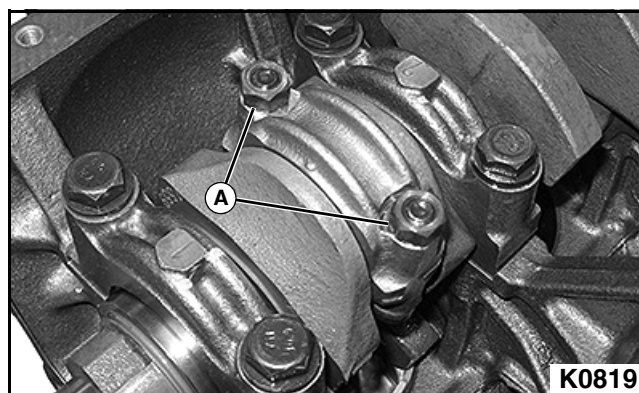

Figure 3-203
2. Remove two nuts and washers (A) securing connecting rod cap to connecting rod with bearing in place. See Figure 3-203.